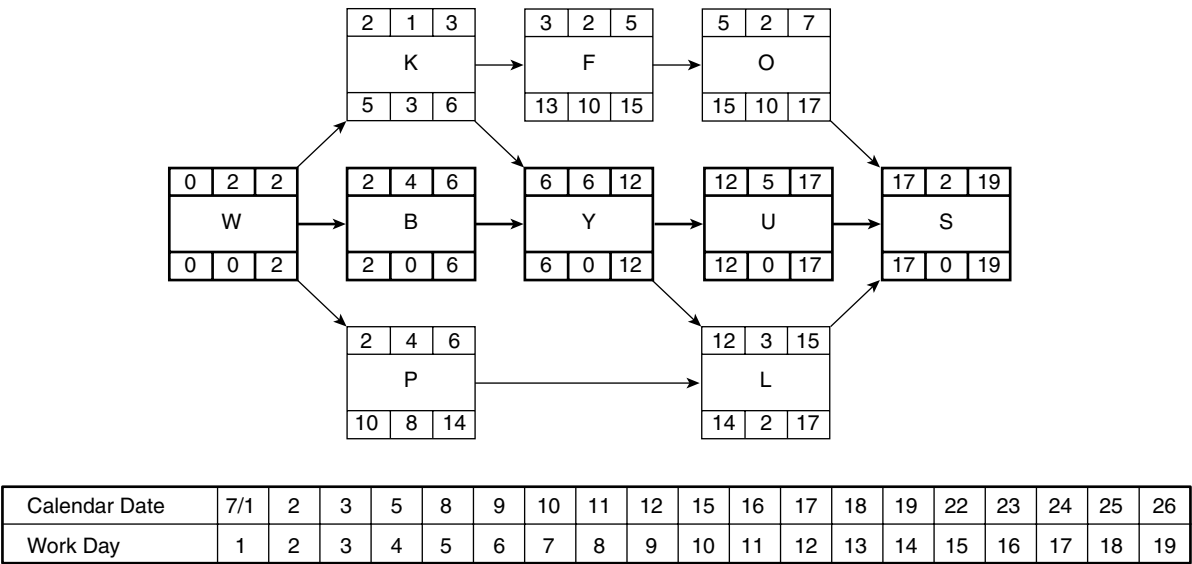
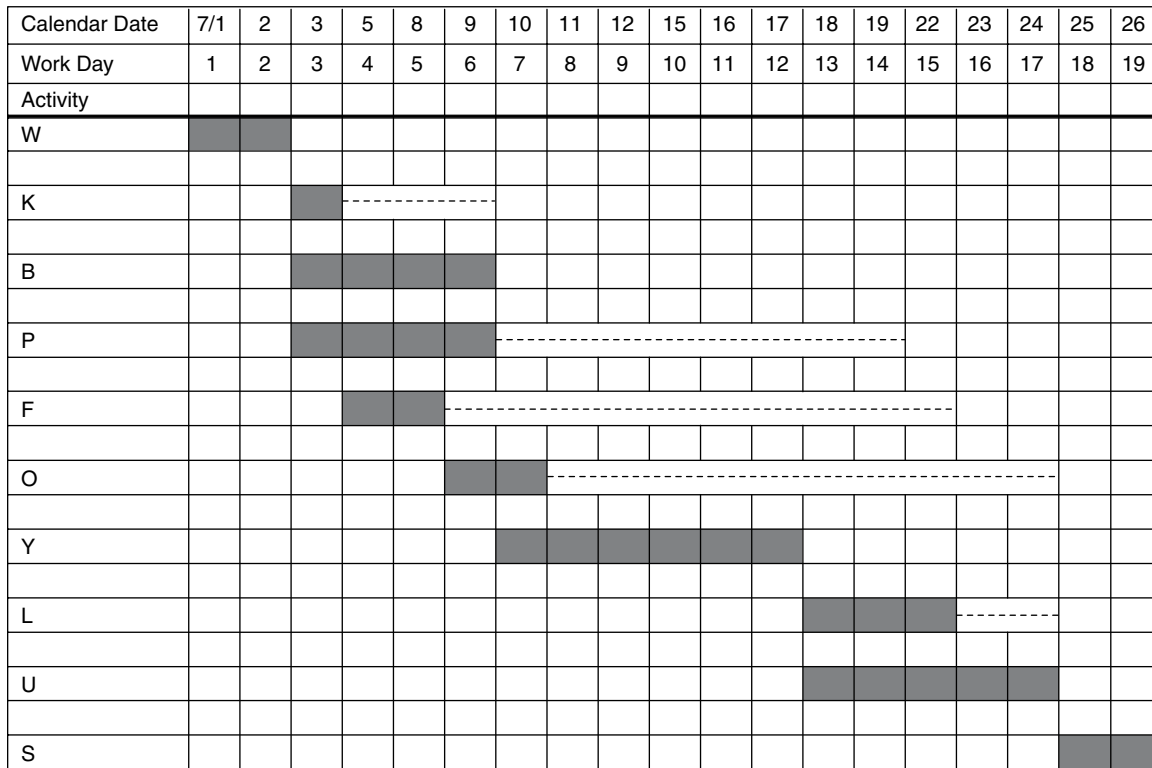

FIGURE 12.1 Practice Problem #1
FIGURE 12.2 This bar chart for the project manager shows float
Figure 12.1, Practice Problem #1, which was used in Chapter 8, will be used in this chapter as an example project. There is a work-date to calendar-date conversion chart at the bottom of the logic diagram. You may want to copy this page as a reference to look at while reading the rest of the chapter.
Notice that in the schedule in Figure 12.2 the activities are listed in chronological order, or, in scheduling terms it is called early start (ES), early finish (EF) sort or order. The first sort criterion is ES. If two activities have the same ES day, then the next criteria would be EF, so the one with the earliest finish would be listed first. Activity *W* is obviously the first activity. As you examine the network logic diagram in Figure 12.1, the second activity could be *K*, *B*, or *P*. All three start at the same time, but because *K* finishes first, it is listed first. Activities *B* and *P* could be interchanged because they both start and finish on the same days. Continuing to look at the logic diagram in Figure 12.1, activity *F* is next because it has the next ES day. Then come *O* and *Y* in order of their ES dates. Activities *L* and *U* have the same ES date, but *L* has the earliest EF date, so it is listed first. Finally, activity *S* is listed last.
Another common sort is ES, total float (TF). With this sort, the first sort criterion is ES, but if two activities have the same ES day, then the next criteria would be TF. Therefore, the most critical activity (the one with the least float) would be listed first. The ES, TF sort would look very similar to the schedule in Figure 12.2, except *B* would be listed before *K* or *P* because they all have the same ES date, but *B* has the least amount of total float. Activity *K* would be next and finally *P* would be the last of the three because *P* has the most total float. Also, *U* would be listed above *L* because *U* has zero float and *L* has 2 days of total float.
In Figure 12.2, note that the time scale shows both calendar and work days. The project starts on July 1, which appears to be a Monday. July 4th is skipped because it is a
The bar chart developed in the previous section for the project manager would not be ideal to give to the typical subcontractor because it shows the total float. The subcontractor may think all float shown belongs to that activity (is independent float) and not realize that most of the time total float is shared with other activities, thus creating major problems for the project. The bar chart in Figure 12.2 could be drawn by hand showing only independent float, if that is the desire of the project management team. The current computer software programs do not identify independent float, so that is not an option with the software. The only option with most software is whether or not to show total float. It is possible to show free float with some software, but from a management point of view, that would be of little help because free float could still be shared with prior activities in the same path or string.
When comparing the bar chart schedule in Figure 12.5 with the dates in the logic network diagram shown earlier (Figure 12.1), you can see that some of the activities actually happened on their ES and EF dates, such as activities *W* and *B*. Others, like activity *K*, started on day 4, after the ES date but prior to the LS date. Activity *K* also took 2 days to complete, rather than the 1 day originally assigned, but *K* finished prior to the LF date, making the project look good. Then, to see activities *P* and *F* appear to be ahead of schedule makes the project team look great!